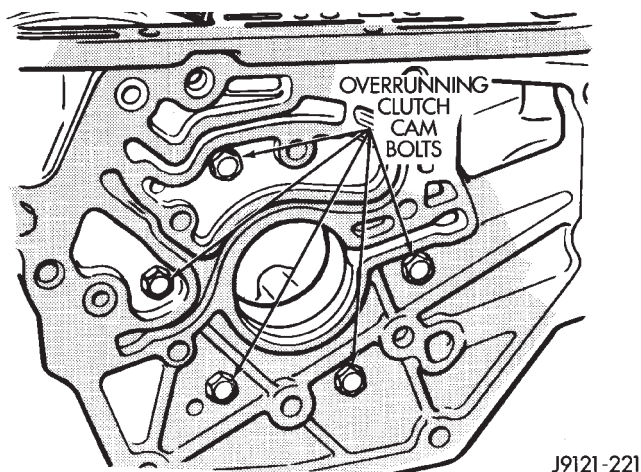

Fig. 28 Overrunning Clutch Cam Bolt Locations
(40) Remove bolts attaching overrunning clutch cam to case (Fig. 28).